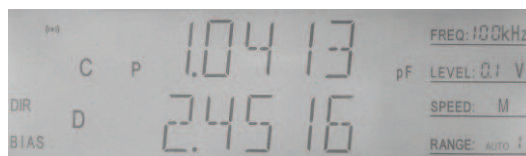

Figure 4-8 Bias function on/off
2. Press **BIAS** key, "BIAS" will be displayed on LCD screen, which means that bias function is turned on, as shown in Figure 4-8.